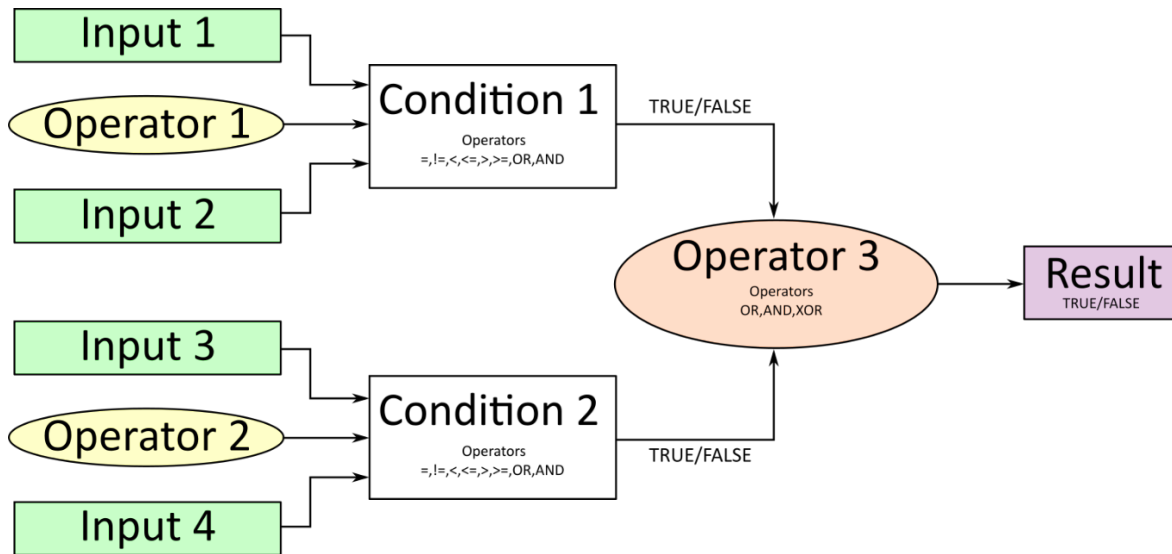

Figure 8: Conditional Block Diagram
The Conditional Block compares up to four different input sources with different logical or relational operators. The result of each block can therefore only be true (1) or false (0). Figure 8 demonstrates the connections between all parameters.